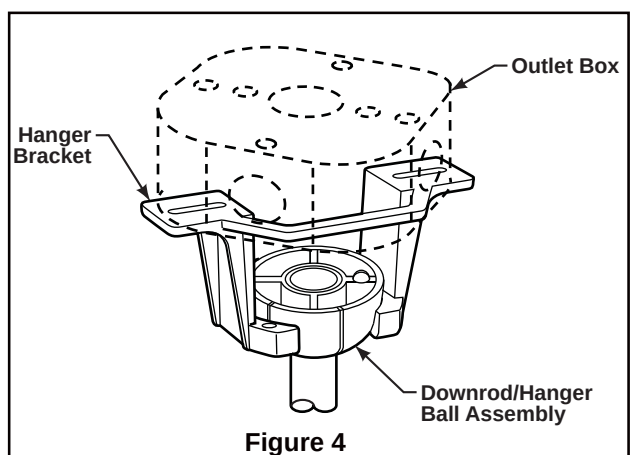

Figure 4
- ☐ 4. Thread downrod into the downrod support on top of the motor. Install the clevis pin by aligning the holes in the downrod support with holes in the downrod. Secure clevis pin with hairpin clip. Tighten the two set screws with nuts in the downrod support. (Figure 4)
2. Carefully lift the fan and seat the downrod/hanger ball assembly on the hanger bracket that was just attached to the outlet box. Be sure the groove in the ball is lined up with tab on the hanger bracket. (Figure 4)
- ☐ **4.** Remove the glass retainer from the light fitter assembly and retain the glass retainer for next step. (Figure 4)
- ☐ 4. Check the operation of the light by gently pulling on the light kit pull chain. (Figure 4)